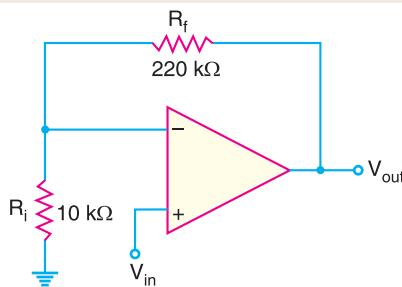

Fig. 25.68
**Example 25.41.** (i) Determine the input and output impedances of the amplifier in Fig. 25.68. The OP-amp data sheet gives  $Z_{in} = 2 M\Omega$ ,  $Z_{out} = 75 \Omega$  and open loop gain of 200,000.